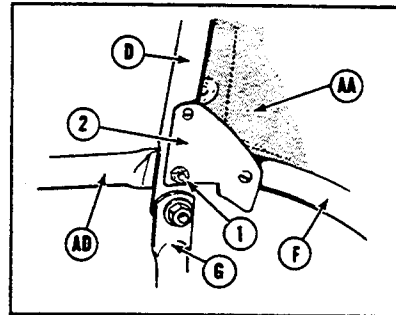

FIGURE 1
The present rope starting pulley, located on the side of the transmission must be removed and replaced with the generator drive pulley, V, Fig. 4, and the new shallow rope starting pulley, U, Fig. 4. Use capscrews, A, Fig. 1, and lockwashers for the re-assembly of these two parts to the transmission drive pulley.
The belt, B, Fig. 1, is then applied between
3. Bolt together (D), (F) and (U) on both sides as detailed in Fig. 1.
5. Now attach this canopy assembly to (G) on each side (Fig. 1), leaving the attaching bolt
2. Remove screw (#1, Fig. 1) and attach the rear end of member (AD) to outside as shown.
3. Repeat above step on opposite side, attaching member (AE) in a similar manner.
4. Remove nuts holding (B) to (H) and tilt whole canopy assembly all the way to the rear.
5. Thread member (AB) through channel in bottom part of front window section (AH).
6. Attach one end of each member (AC) to the lower front corners of (AB) through the openings at that point in the front window assembly (AH).
A. Stop plate tabs (#2, Fig. 1) must be properly lined up with the rear member so that it will not slip to the side. The purpose of these stop plates is to eliminate the possibility of interference between the rear counterweight and the cab when the cab is tilted to the rear.